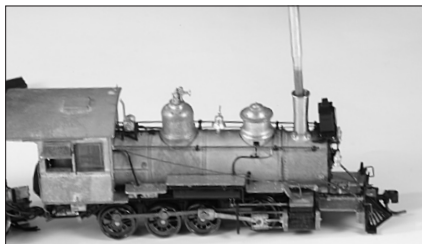

Figure 12 - Remove the smokestack/cylinder casting screw.
3. Insert a small flathead screwdriver into the smoke stack, find the screw, and remove. See Figure 12.